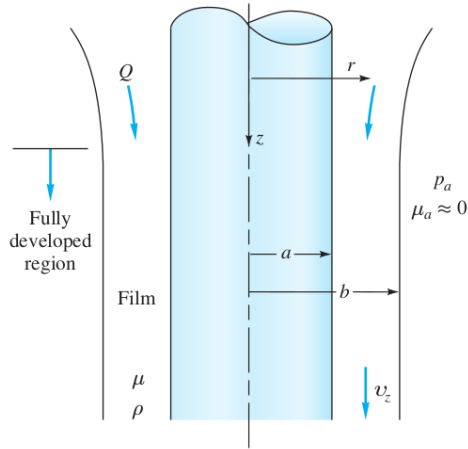

Fig. 4.14
4.14 Consider a viscous film of liquid draining uniformly down the side of a vertical rod of radius a , as in Fig. 4.14. At some distance down the rod the film will approach a terminal or fully developed draining flow of constant outer radius b ,